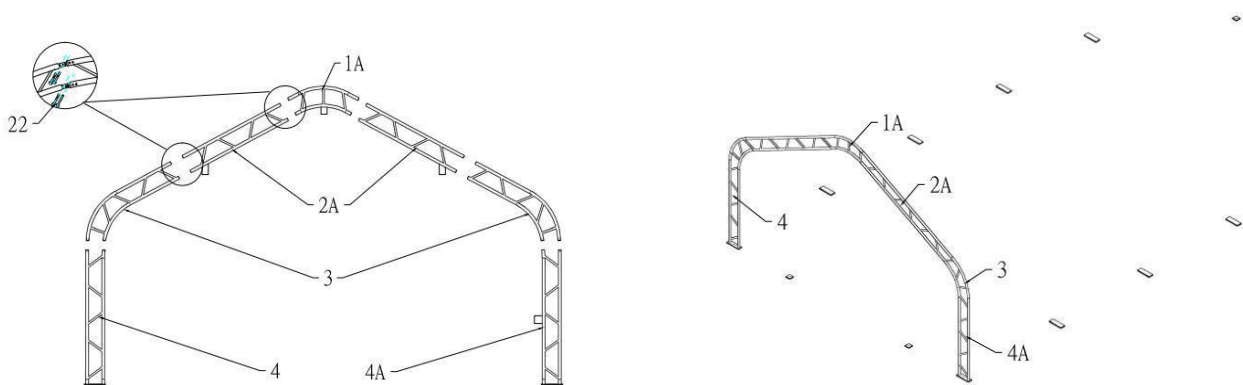
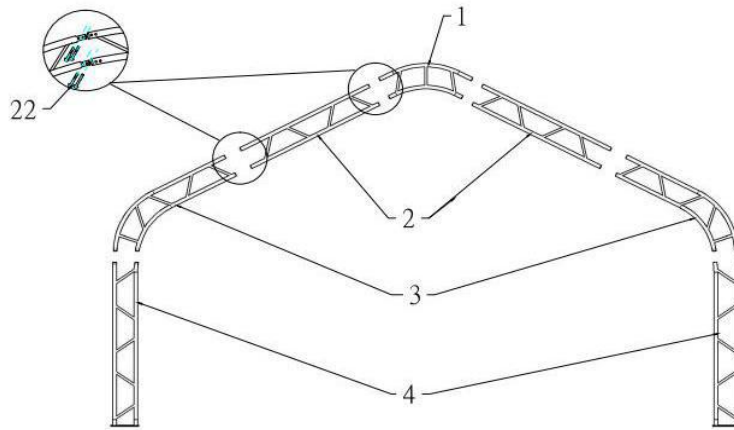
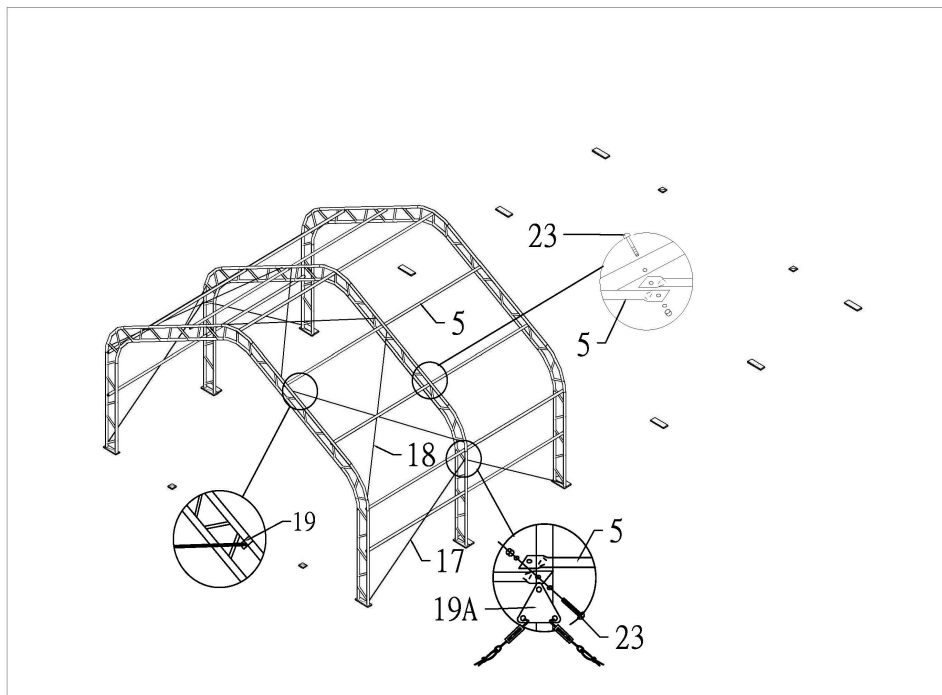

Figure 3
Figure 4
Figure 5
1. Figure 3 shows to connect the Roof bent tube for front and back door (No.1A), Sidewall bent tube for front and back door (No.2A), Shoulder bent tube (No.3), Standing leg (No.4) and Standing leg for front door (No.4A) with Bolt 8x60mm (No.22), then put the arch into tube of the Base flange by hoist (see Figure 4)
2. Figure 4 shows to connect the Roof bent tube (No.1), Sidewall bent tube (No.2), Shoulder bent tube (No.3), and Standing leg (No.4) with Bolt 8x60 (No.22), then put the arch into tube of the Base flange by hoist, and assemble every group arch by turns (see Figure 5)
3. Connect Purlin (No.5) to arch by using Bolt 10x70mm (No.23) by turns (see Figure 5), then
connect the Steel wire(NO.17 and NO.18) on top and side by using Clip(No.19) (see Figure 5).